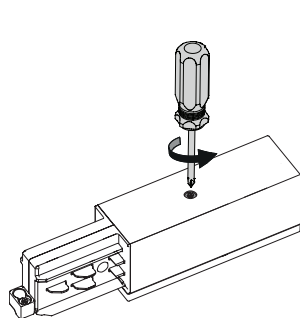

Figure 1
1. Using your Phillips Screwdriver, unscrew the screw that is holding the outer cover to the Live End Feed. **Figure 1**